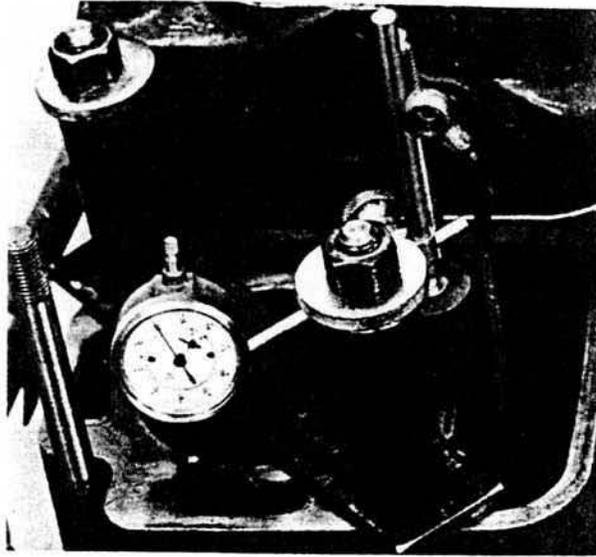

Fig 30
4. Tension the cylinder block so that it is pressed down against the crankcase (See Fig. 30).